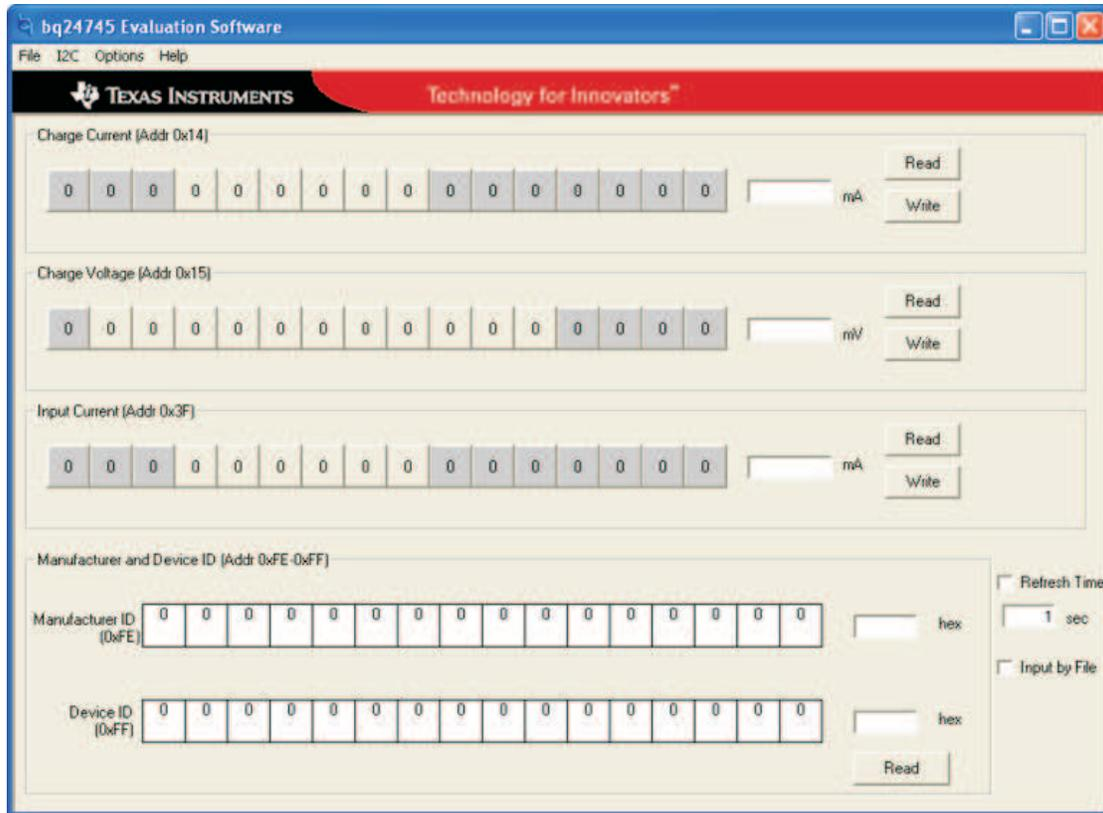

Figure 3. bq24745/7 SMB Evaluation Software (Main Window)
12. Start the host computer. Start the bq24745/7 evaluation software by using the cascading menus to select the **start** → **All Programs** → **Texas Instruments** → **bq24745 Evaluation Software** command. The EVM Software displays as shown in Figure 3.